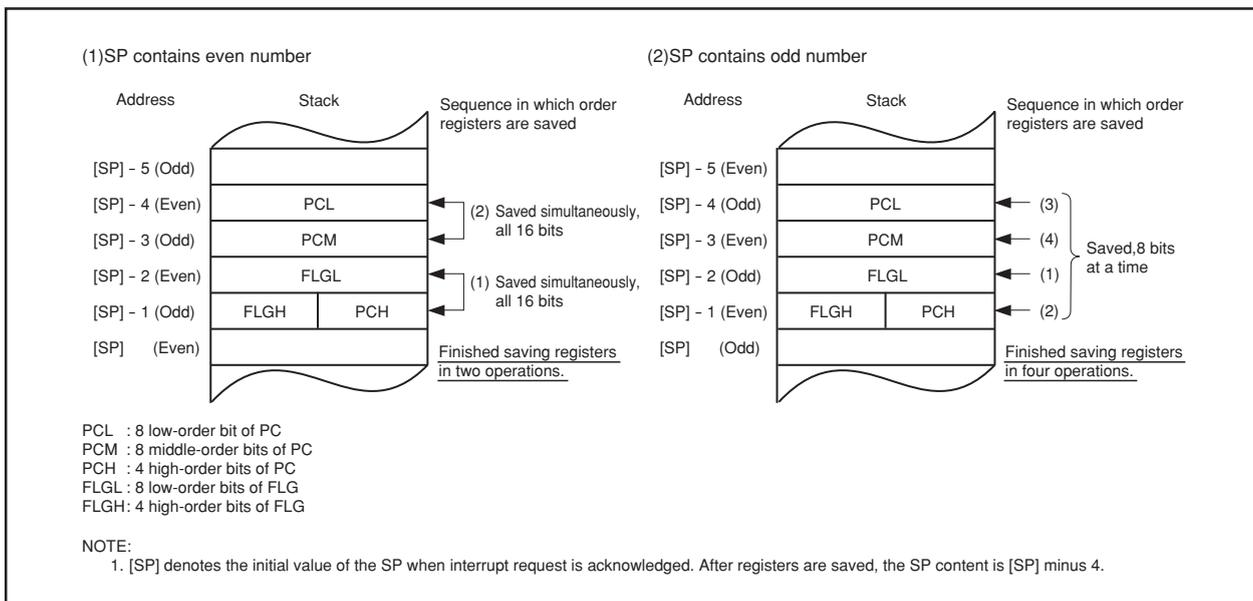

Figure 9.8 Operation of Saving Registers
The operation of saving registers carried out in the interrupt sequence is dependent on whether the SP (1), at the time of acceptance of an interrupt request, is even or odd. If the SP (Note) is even, the FLG register and the PC are saved, 16 bits at a time. If odd, they are saved in two steps, 8 bits at a time. Figure 9.8 shows the operation of the saving registers.